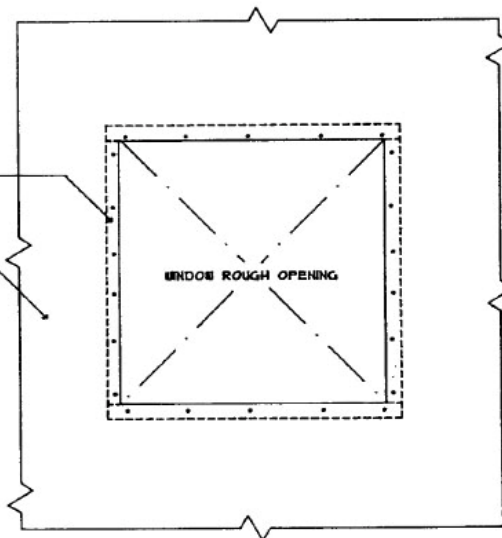
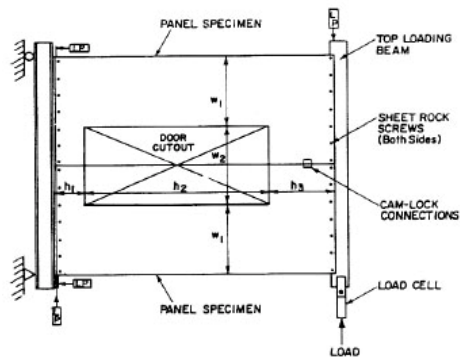

FIGURE 5*—FRAMING AT ROUGH OPENINGS FOR WINDOWS AND DOORS
FIGURE 6*
- Openings in the Murus Panels for door and windows shall be rough framed with 2-inch by 4-inch dimension lumber embedded into the foam core of the panel in the same manner as the top and bottom in-let plates. The lumber framing shall be provided on all sides of the opening, as shown in Figure 5 of this report, and shall be secured to the OSB faces of the panel on both sides with 6d nails at 8 inches on center, staggered.
2. The size of the door and window openings shall not exceed those shown in Figures 6 and 7 of this report, and the opening shall be rough framing with 2x4 dimension lumber, as shown in Figure 5 of this report.